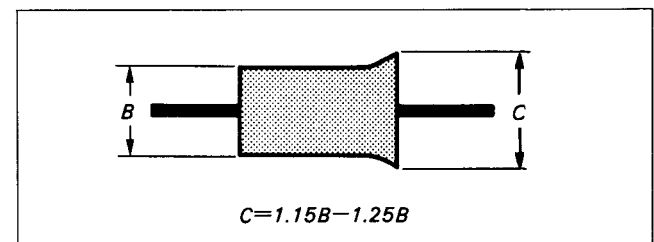

Fig. 7-77.
- 5) Turn No.5 guide so that the exit side waveform flats slightly. (See Fig. 7-77.)